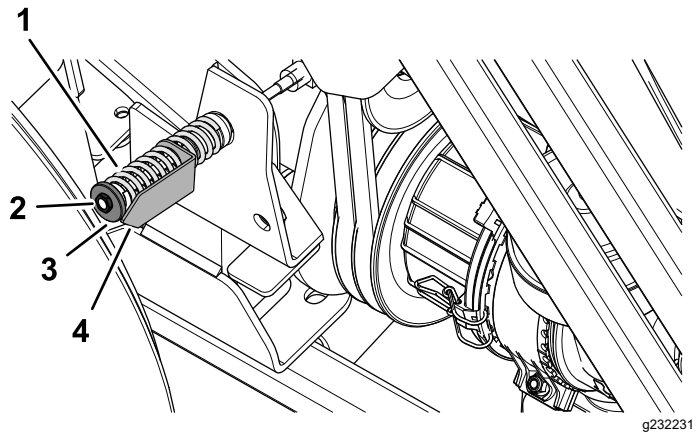

Figure 89
5. If needed, rotate the nut for the idler-pulley tensioner until the tension-indicator arrow aligns with the outer surface of the washer (Figure 89).
8. Loosen the nut for the idler-pulley tensioner; refer to Figure 89 in Checking the PTO Belt Tension (page 66).